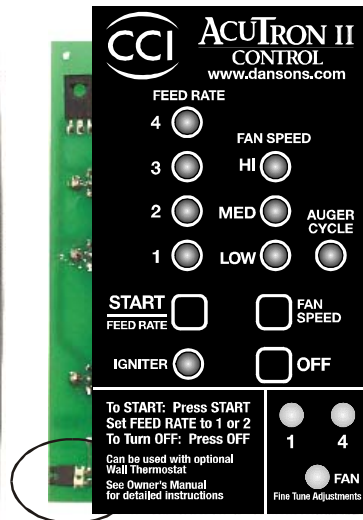
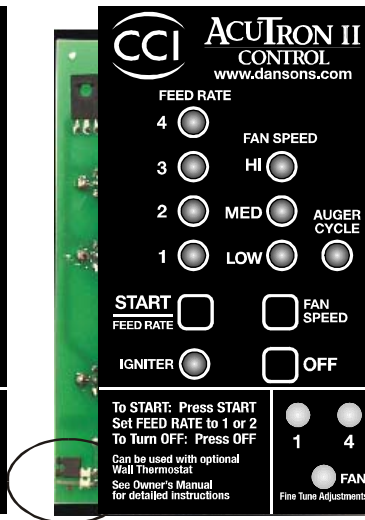

figure 32
figure 33
8. Remove the black two prong jumper, (see figure 32), located on the front, left hand side, near the bottom corner and reconnect it to only one of the posts. (see figure 33).
IMPORTANT: IF THE WALL THERMOSTAT PROVIDED IS NOT USED, THE JUMPER IS REQUIRED FOR THE STOVE TO OPERATE IN MANUAL MODE (SEE FIGURE 32).